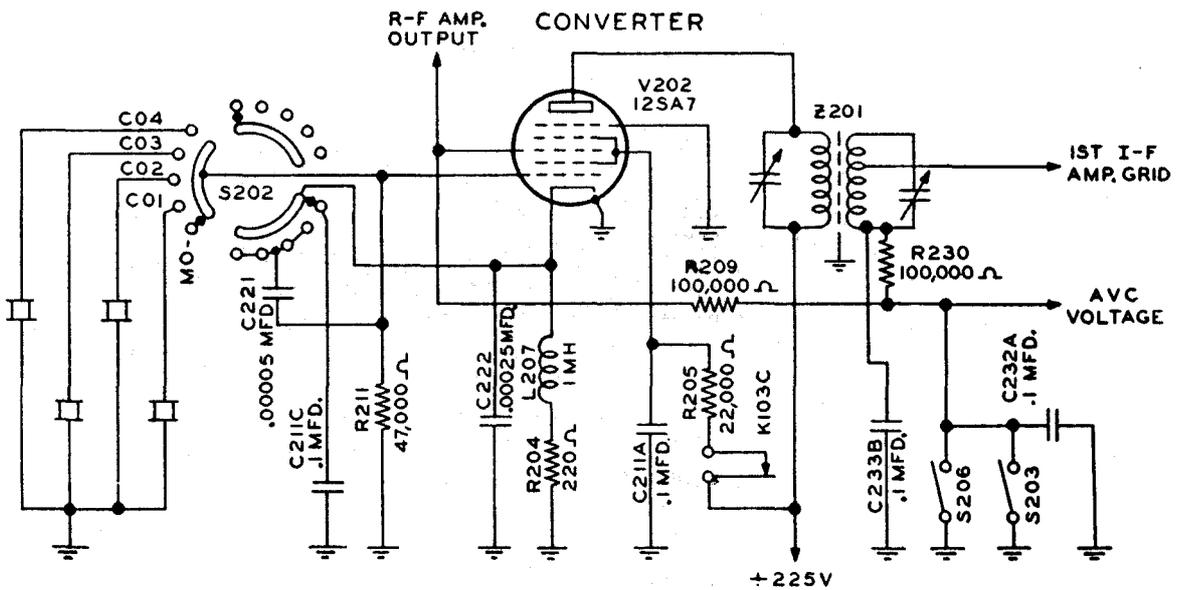

Fig. 6. Converter Circuit (Dwg. 500 0141 00A)
2.3.5.1. Refer to Figure 6. A Type 12SA7 pentagrid tube is employed in the converter stage. The tube is excited by a separate oscillator except during periods of crystal controlled operation. When crystal reception has been selected by the operation of the OSCILLATOR SELECTOR switch, S202, a section of V202 operates as the oscillator to self-excite the converter. The full 225 volts output of the low voltage section of the power unit is applied to the plate through the primary of the i-f transformer, Z201. Screen voltage for the tube is obtained by connecting a resistor, R205, in series with the plate voltage supply. When the transmitter carrier is on, screen voltage is removed from V202 by the operation of the carrier control relay, K103, in the transmitter. AVC voltage is applied to the grid of the converter tube through the grid resistor, R209. The AVC circuit is rendered inoperative by the operation of the MOD./CW switch, S203, or the operation of switch S206. (Switch S206 is operated by the R.F. GAIN control.) The operation of either switch grounds the lower end of the grid resistor, R209.